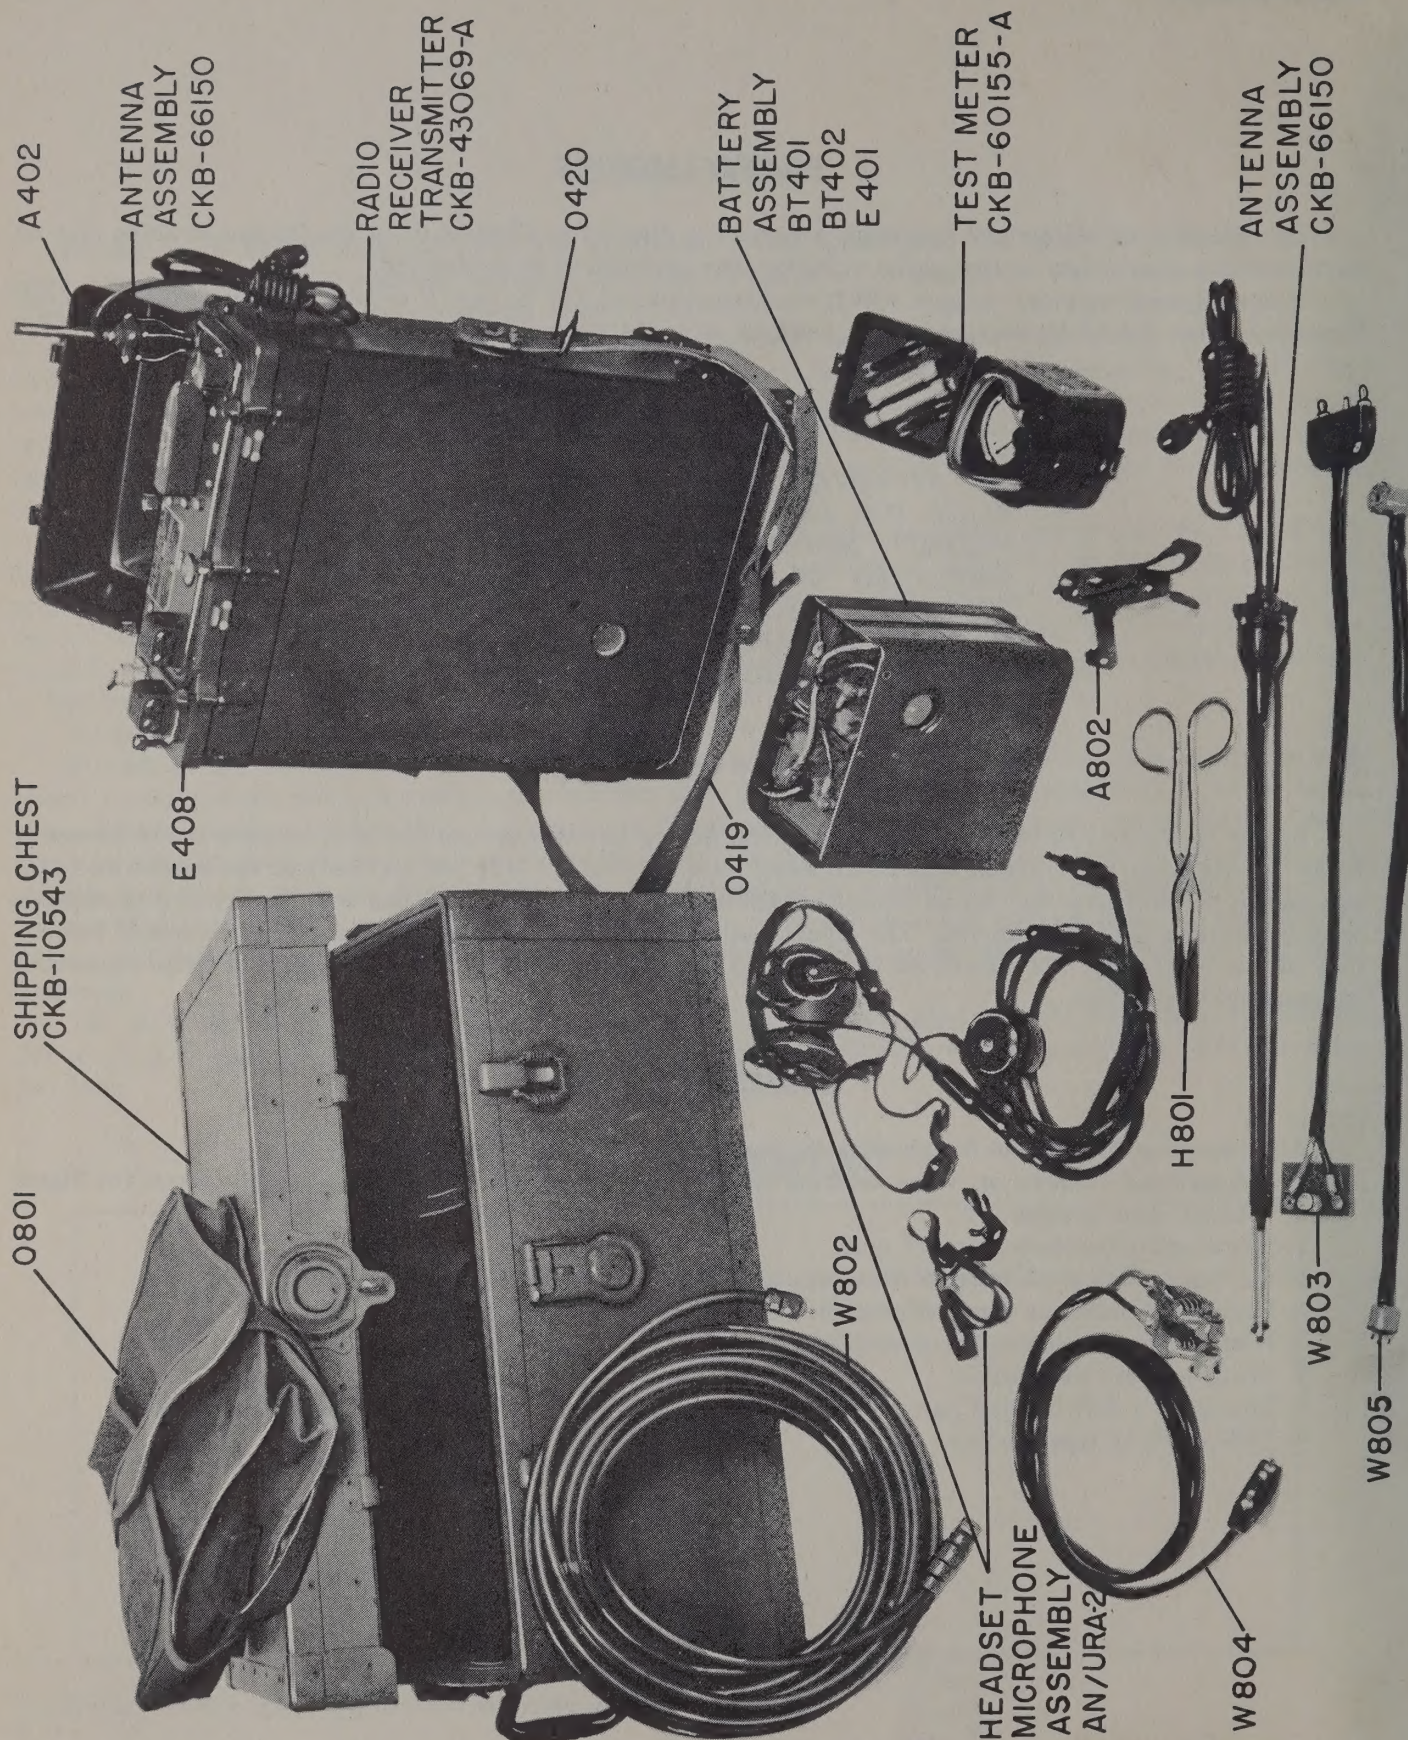

Figure 1-1. Model MAW-1 Portable VHF Radio Transmitting and Receiving Equipment
The purpose of Navy Model MAW-1 Portable VHF Radio Transmitting and Receiving Equipment (figure 1-1) is to provide two-way, amplitude-modulated (AM), voice of telegraphic radio communication on any one of 10 preset channels in the frequency range 115 to 156 megacycles. The telegraphic communication is modulated-continuous-wave (MCW) wherein the carrier is amplitude modulated by a keyed 1000 cycle-per-second tone. The transmitter is crystal controlled and has seven hundred milliwatts of modulated output. The receiver is a twelve-tube, crystal-controlled superheterodyne.
(See figure 1-1)
AN/URA-2 (See figure 1-1.)—The Headset-Microphone Assembly (A601) consists of a headset, lip microphone, microphone harness, extension cord with press-to-talk switch, and gas mask adaptor. When not in use the assembly is stowed in the control panel cover.
c. ANTENNA ASSEMBLY CKB-66150. (See figure 1-1.)—The Antenna Assembly (E701) is a quarter-wave ground-plane type, consisting of three folding radial ground radiators, one vertical space radiator, and a six foot RG-58/U coaxial transmission line. Each radiator has a two-section telescoping rod with two intermediate positions indicated by detents, giving four antenna settings. The fully collapsed position is used only for storage. The three extended positions are used to cover the frequency range of the equipment; that is, extended to the first detent, extended to the second detent and fully extended.
d. TEST METER CKB-60155-A (See figure 1-1.)—The Test Meter (MT501) is used for testing the transmitter and receiver. Two alignment tools and spare tips are mounted in clips attached inside the lid of the case. A 0 to 200 dc microammeter is mounted in the case and connected to a test lead with a plug which fits the test meter jacks in the transmitter and receiver chassis. When the meter is not in use, the test leads are inserted in a shorting jack to provide damping. The test meter case is aluminum with a hinged cover and a compression type latch. Rubber gaskets on the lid and the case make the unit submersion proof when closed. The outside of the case is U. S. Marine Corps green.
e. SHIPPING CHEST CKB-10543. (See figure 1-1.)—Shipping Chest CKB-10543 (A801) is designed to house all the units of Navy Model MAW-1. The Chest is constructed of $\frac{3}{8}$ " treated plywood and partitioned to provide compartments for the accessory bag, Test Meter, spare crystals, battery assembly, and spare Antenna. Each compartment is stenciled with the name of the part it holds, and straps are included to hold the items in place.